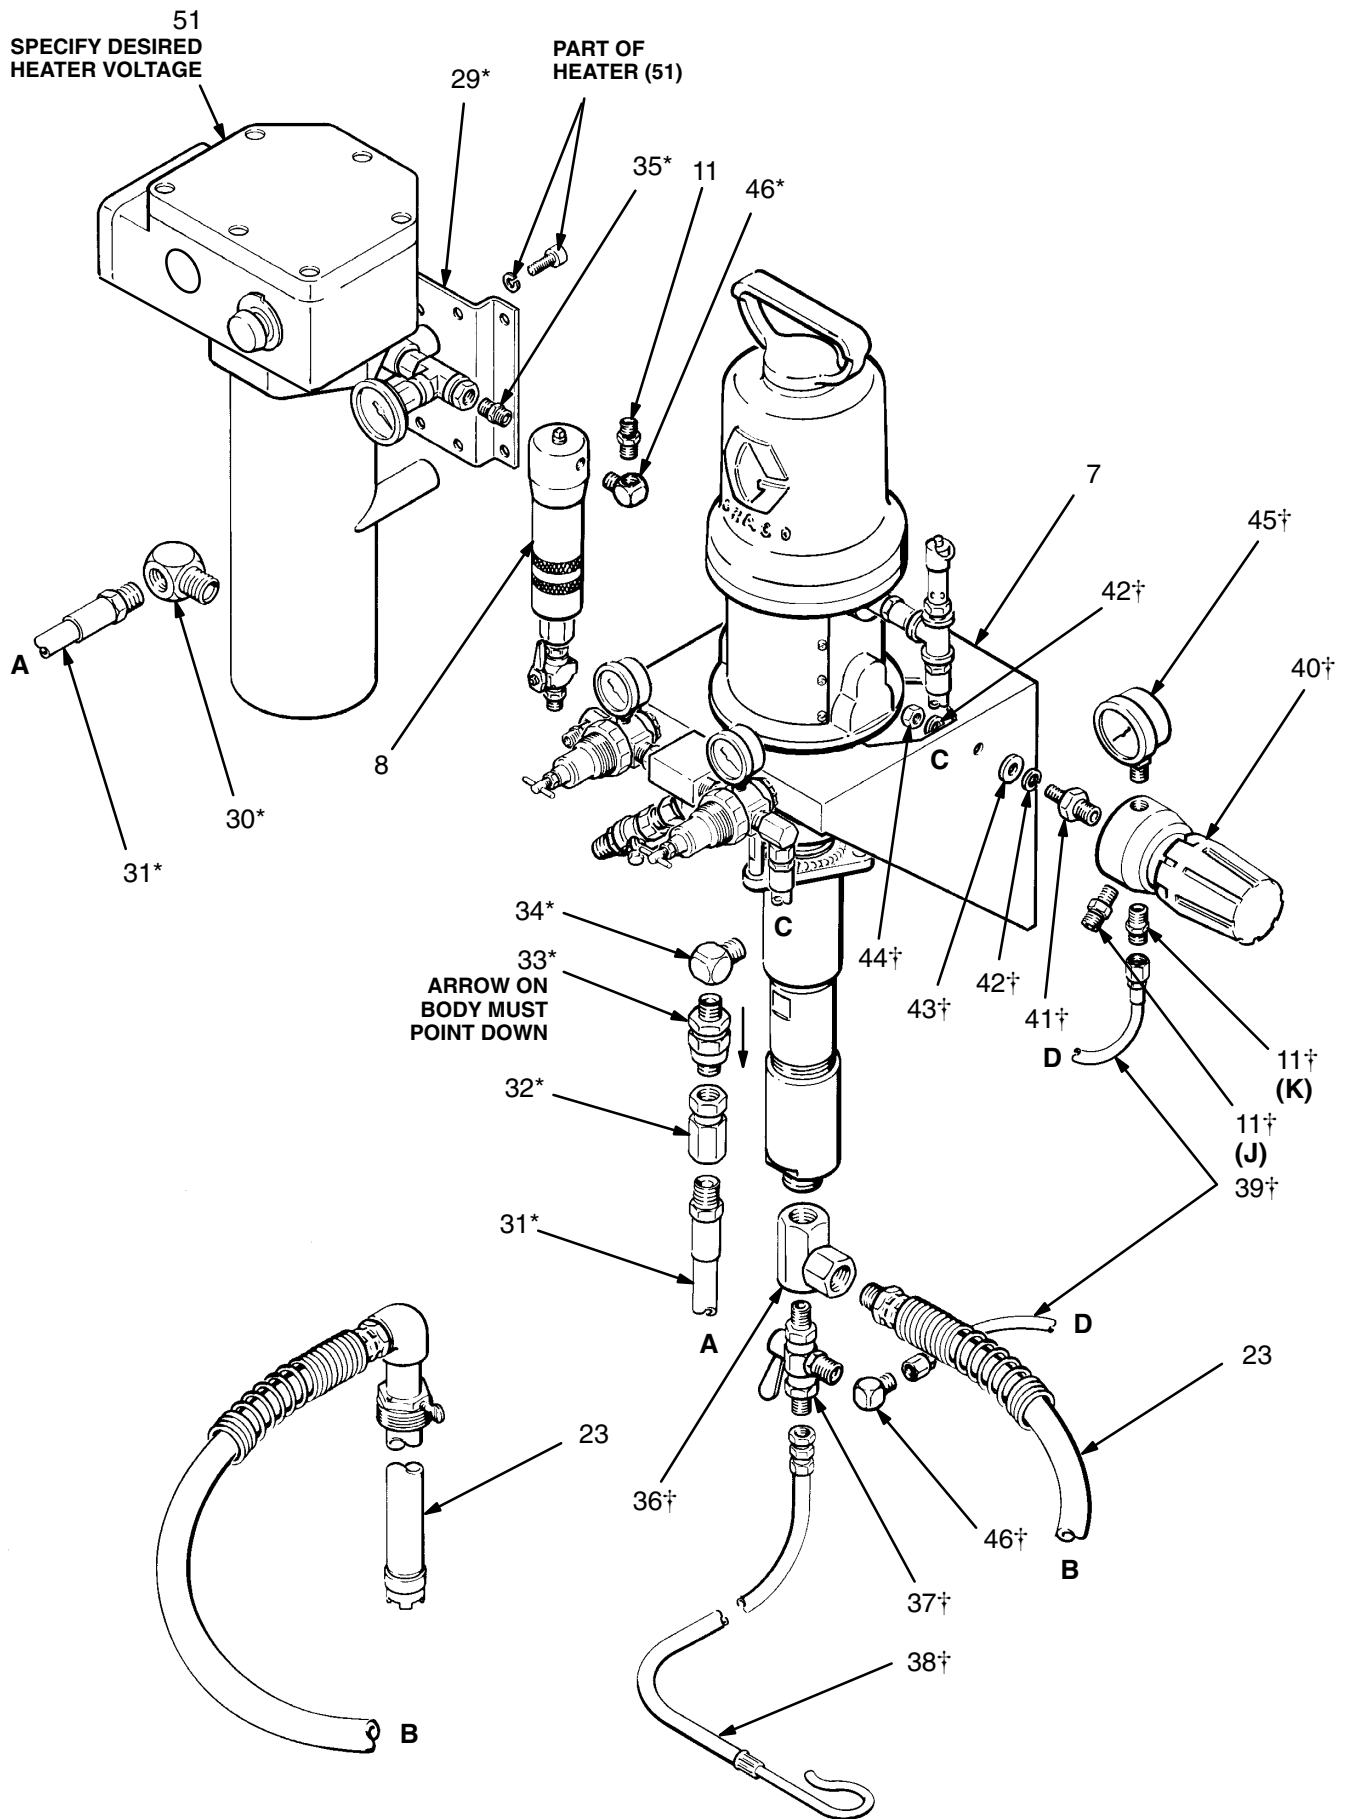

Fig. 3
5. Install the 3/8 npt nipple (35*) in the heater outlet. Screw the filter (8) inlet onto this nipple. Unscrew the 1/4 npt nipple (11) from the filter outlet. Screw the elbow (46*) into the filter outlet, and screw the 1/4 npt nipple (11) into the elbow. See Fig. 3.
6. Screw the elbow (30*) into the heater’s inlet. Attach the heater hose (31*) to the elbow. Attach the rigid end of the union (32*) to the other end of the hose (31*). See Fig. 3.
2. Unscrew the swivel elbow (H) from the end of the suction kit (23) and discard the elbow. See Fig. 2. Screw the rigid end of the manifold (36 †) onto the pump intake, and attach its swivel end to the suction kit (23). See Fig. 3.
3. Screw the mounting stud (41†) into the outlet in the base of the back pressure regulator (40†). Install the fluid pressure gauge (45 †) in the inlet of the back pressure regulator. Remove the plugs from the optional inlet and outlet of the back pressure regulator. Install one 1/4 npt nipple (11†) in the regulator’s optional outlet (K), and the other 1/4 npt nipple (11†) in the optional inlet (J).
4. Place a lockwasher (42†) and washer (43†) on the mounting stud, and insert the stud through the mounting hole in the right side of the pump wall bracket (7). Secure the regulator with a lockwasher (42†) and nut (44 †) on the inside of the pump wall bracket.
5. Install the CIRC end of the three-way ball valve (37†) in the open port of the pump fluid intake manifold (36†). Screw the elbow (46†) onto the IN branch of the three-way valve. Connect one end of the hose (39†) to this elbow, and the other end to the nipple (11†) at the back pressure regulator’s optional outlet (K).
7. Connect the fluid return line to the nipple (11†) at the back pressure regulator’s optional inlet (J).
3. See Fig 3. Remove the nipple (11) from the optional inlet (J) of the back pressure regulator (40). Save the nipple for later use.